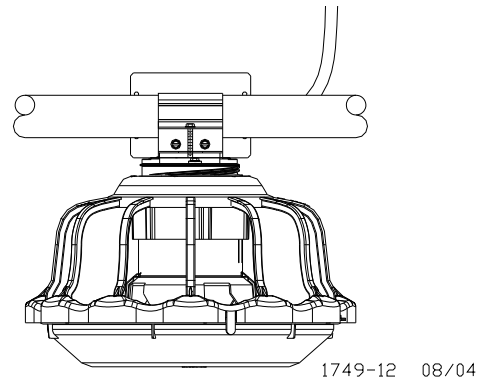

Figure 43. Installing the Mechanical Mid Line Control
2. Enlarge the outlet hole to approximately 1" [2.5 cm] diameter for the Mid-Line Control, plus enlarge (2) outlet holes in front (to the hopper end) of the Mid-Line Control.
- a. Assemble the Mid-Line Control over the outlet hole in Tube as shown in **Figure 43**.